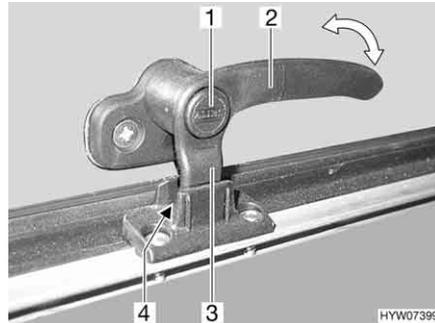
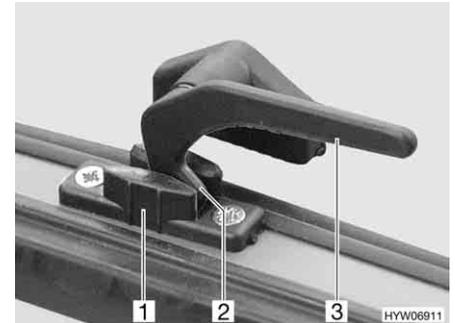

Fig. 55 Catch lever with safety knob in "continuous ventilation" position
Fig. 56 Catch lever in the "continuous ventilation" position
- "Continuous ventilation" (Fig. 55 and Fig. 56)
- Press and hold the security button (Fig. 55,1), if present.
- Turn the catch lever (Fig. 55,2 or Fig. 56,3) a quarter turn towards the centre of the window.
- Return the catch lever to its initial position. Move the locking catch (Fig. 55,3 or Fig. 56,2) on the catch lever into the recess of the window catch (Fig. 55,4 or Fig. 56,1).